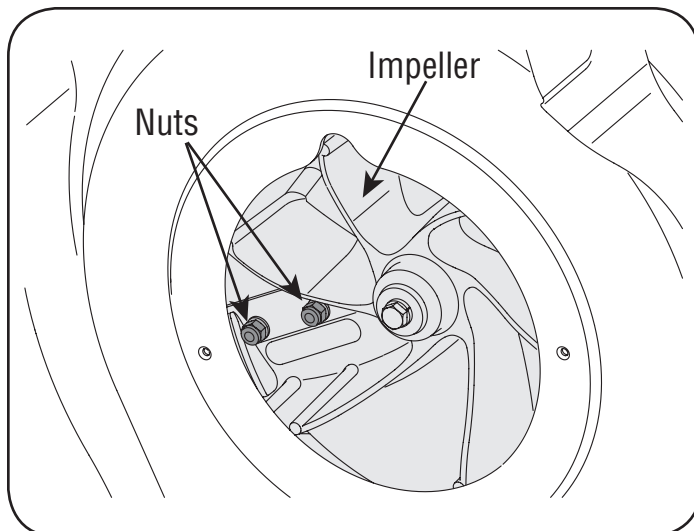

Figure 27
10. The nuts on the flat head cap screws can be reached from underneath using a 1/2-inch socket, universal, and extension. See Figure 27.